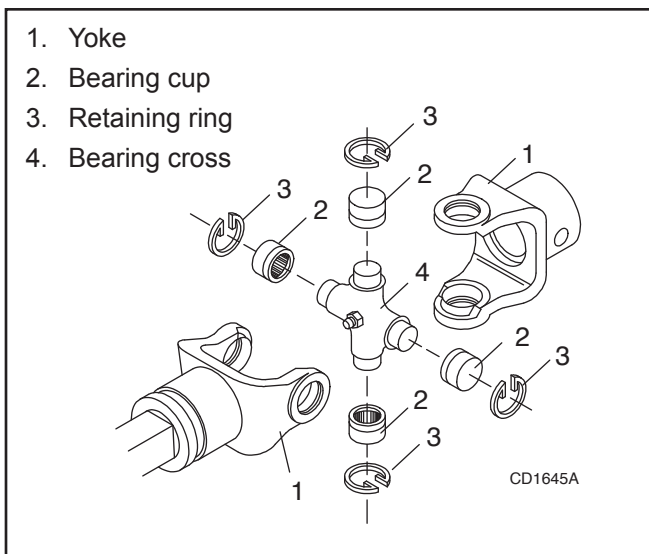

Figure 22. Universal Joint Exploded View
1. Remove external snap rings from yokes in four locations as shown in Figure 22.